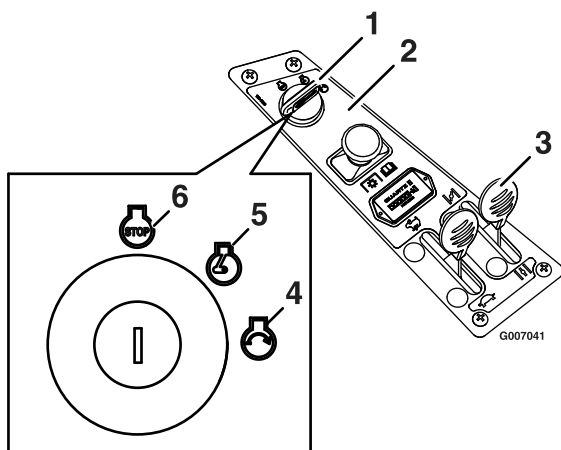

Figure 11
4. Turn the ignition key to Start to energize the starter. When the engine starts, release the key (Figure 11).
5. If the engine stalls or hesitates, move the choke lever partially forward for a few seconds (Figure 11).
1. Move the throttle lever to between Fast and half throttle (Figure 11).
3. Turn the ignition key to Off (Figure 11).